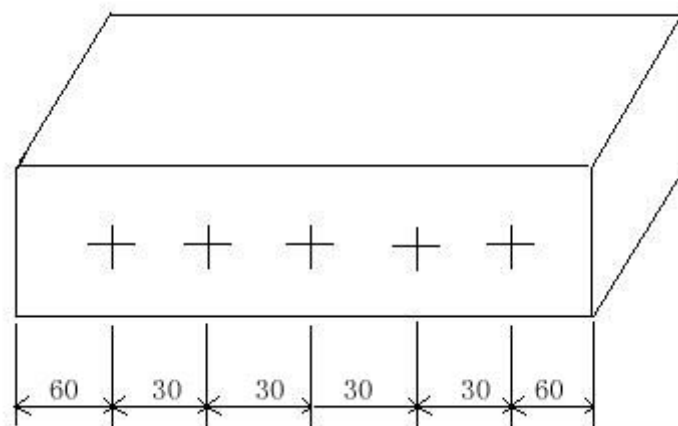

Figure 3
Test points as figure 3, five test points at each long side of each brick, total ten points. Please avoid taking follow cases as test point
① Refer to figure 3: Let rebound pole(2) reach out, unscrew cover cap(31), demount dust felt ring(3) and semicircular clasp(4), unscrew end cover(16), take out the compression spring(17), move rebound hammer to rear end, unhook and take out.
② Rebound hammer(27) knock rebound role(2) lightly, the rebound role will leave from center rod, take out the buffer spring(29), unscrew the rebound hammer(27) from the center rod(10), update the tension spring(5) if necessary.
③ Washing all active components carefully, specially note the contact area between center rod (10) and rebound pole (2). Clean the holes in rebound pole and rebound hammer and the collision area with metal brush.
④ Insides of shell, feather key and pointer axis should be cleaned too.
⑤ After cleaning, install all component by reversed procedures from above, don't miss buffer spring(29) and dust felt ring(3), the center rod should be lubricated with watch oil before installing back.
- ⑥ After installing finished, test pointer slider friction, its value should be 0.4N~0.6N.
- ⑦ The last step, calibrate the test hammer on steel anvil, rebound values should be $R_m=74\pm 2$.
- ⑧ Don't change any dimension of component.
- ⑨ After using, clean surface, push rebound role back into body and unhook rebound hammer, lock test hammer, put into package and store in dry shady place.